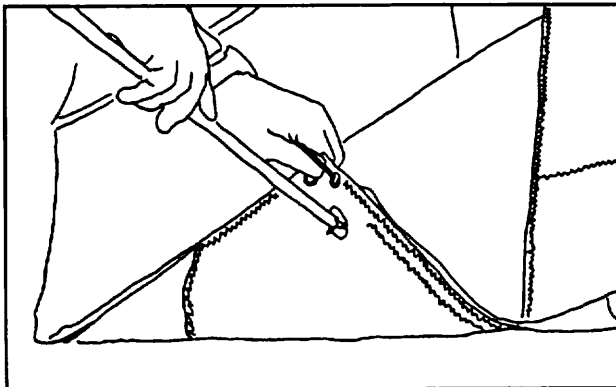

Figure 26
20) Install the plug in #1 battens. (Figure 26, 27)